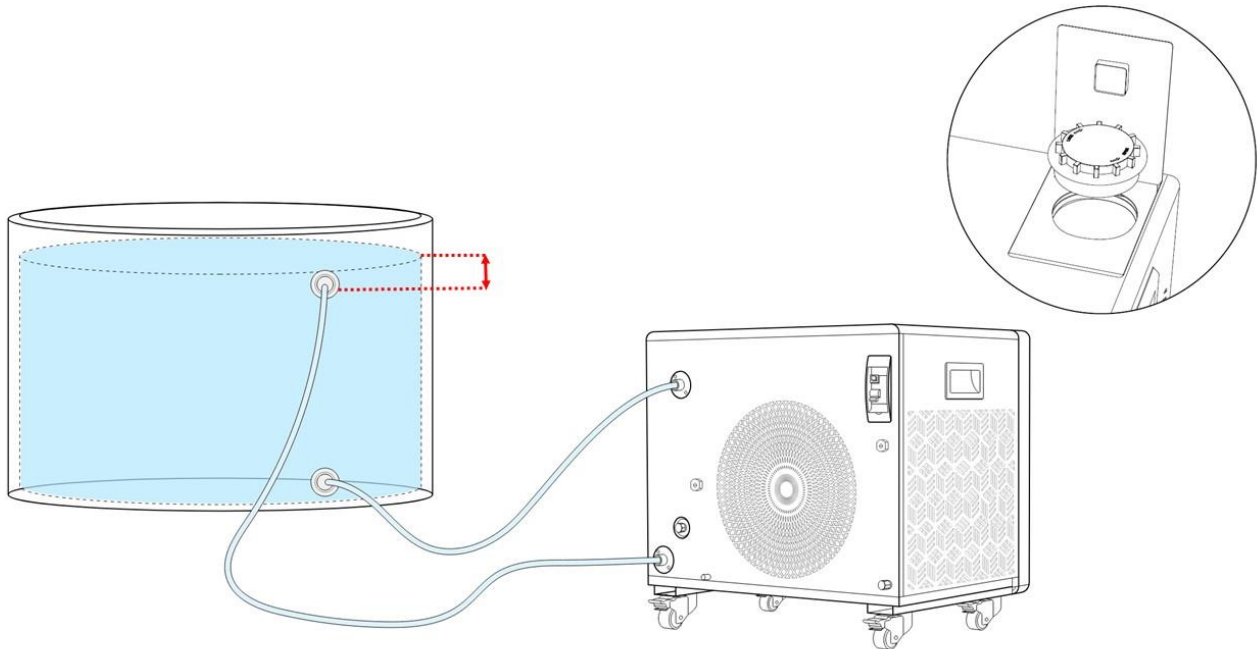

Figure 3. Water Level Higher Than Tub's Inlet
- Case 1: Tub water level is higher than the tub's inlet (See Figure 3)